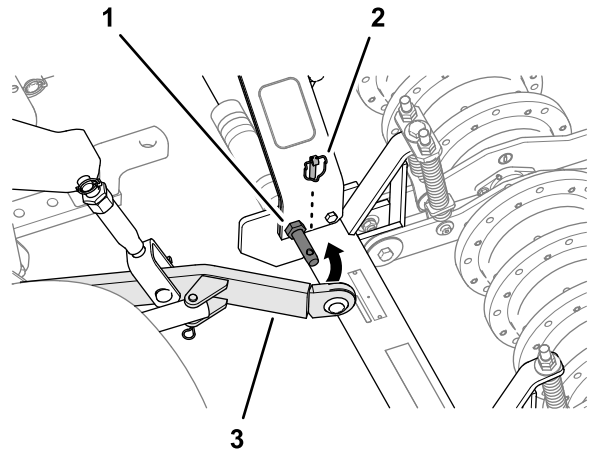

Figure 17
4. Position the aerator so that the lower-link arms of the traction unit line up with the lift-arm pins of the aerator (Figure 17).
5. Assemble the lower-link arms to the lift-arm pins and secure the arms with the lynch pins (Figure 17).